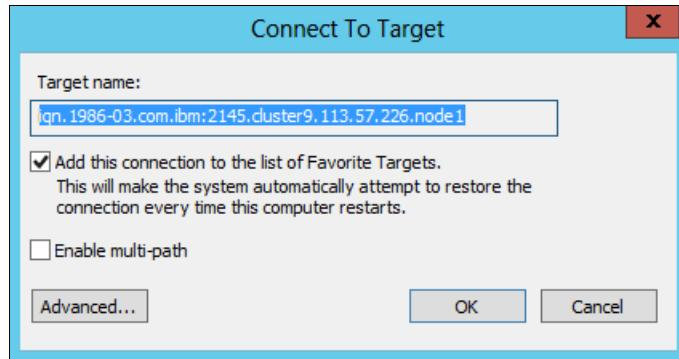

Figure 7-25 Connect to Target
- To connect to the targets, select each target and click **Connect**. A new window opens, as shown in Figure 7-25.